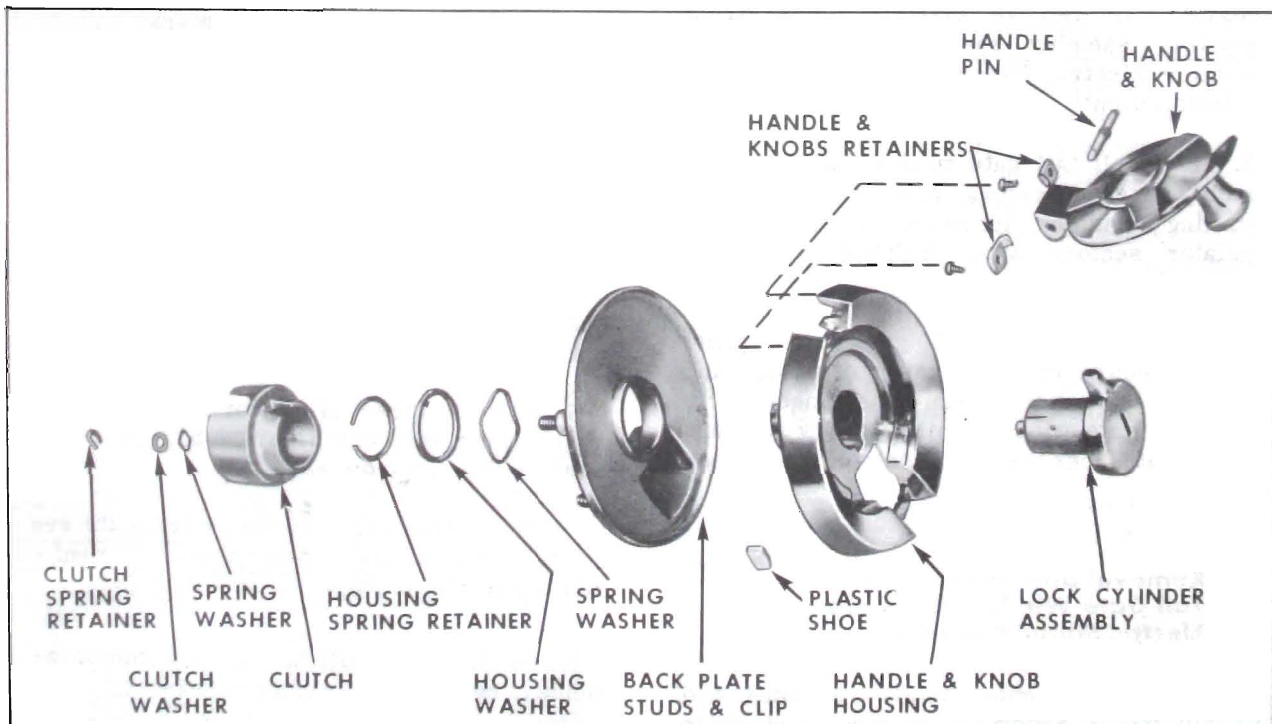

Figure 4-22—Disassembly of Window Regulator Outside Handle
2. Using a hooked tool or other suitable tool, remove clutch spring retainer; then remove clutch washer and spring washer, and remove clutch and lock cylinder assembly from unit (Figure 4-22).
3. Using snap ring pliers or other suitable tool remove housing spring retainer; then remove housing washer and spring washer, and remove back plate from handle and knob housing (Figure 4-22).
NOTE: Plastic shoes can be removed from handle and knob housing by carefully prying shoes from housing (Figure 4-22).
4. If replacing handle and knob assembly remove screws securing handle and knob retainers; then disengage handle and knob including handle pin from housing (Figure 4-22).
2. Using an awl or other suitable tool, remove clutch spring retainer; then remove clutch washer and spring washer and remove clutch and lock cylinder assembly from unit (see Figure 4-22).